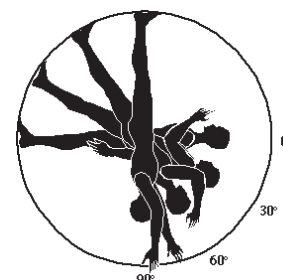

Figure 3
- When first using the inversion table, do not go to full inversion. To start, invert to only 15-20 degrees (See Figure 3) until you feel comfortable enough to progress to a greater angle. Refer to "Important Details Regarding Inverting" on the next page.